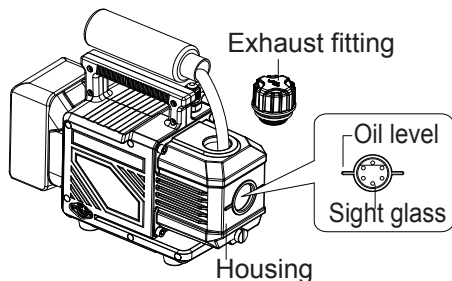

Fig 1
1. Oil filling: fill oil to near the top of sight glass, insufficient oil will affect the vacuum degree and service life, excessive oil will produce more oil mist (see Fig. 1).